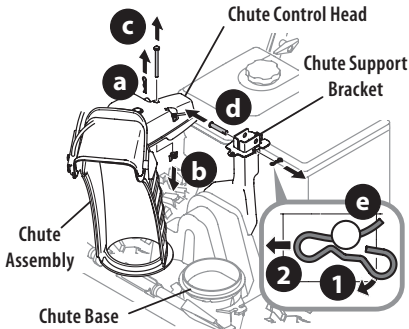

Figure 19
- Remove hairpin clip (a), wing nut (or locknut if equipped) (b) and hex screw (c) from chute control head and clevis pin (d) and bow-tie cotter pin (e) from chute support bracket (Figure 19).